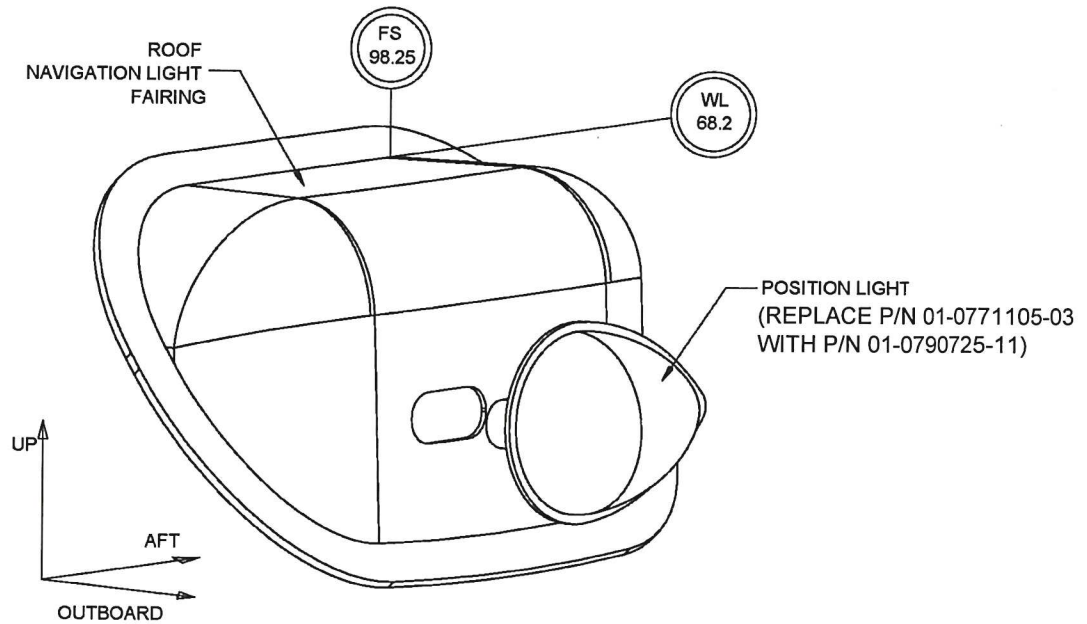

Figure 1 Strobe Light Position (LH Side)
3. Remove existing upper right-hand position light assembly (P/N 01-0771105-03), retain hardware, and replace with position/strobe light assembly (P/N 01-0790725-11) using retained hardware, see Figure 1.